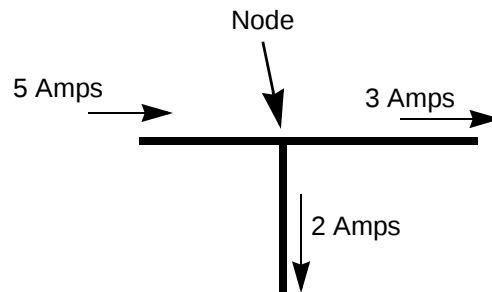

Figure 7.26
- The sum of the currents coming out of the other two wires must equal 5 amps. That could be 3 amps in one wire and 2 amps in the other or it could be 2.5 amps in each wire, but the total coming out must be the same as the current going in. See Figure 7.26.